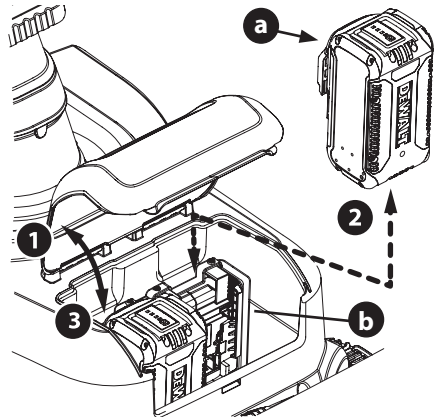

Figure 9
2. Slide one battery (a) into the battery port (b) so that the battery fuel gauge faces up from the battery port (Figure 9).